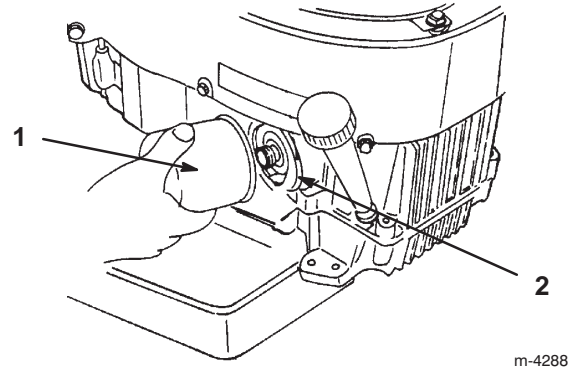

Figure 39
2. Remove the old filter (Fig. 39).
3. Apply a thin coat of new oil to the rubber gasket on the replacement filter (Fig. 39).
4. Install the replacement oil filter to the filter adapter, turn the oil filter clockwise until the rubber gasket contacts the filter adapter, then tighten the filter an additional 3/4 turn (Fig. 39).